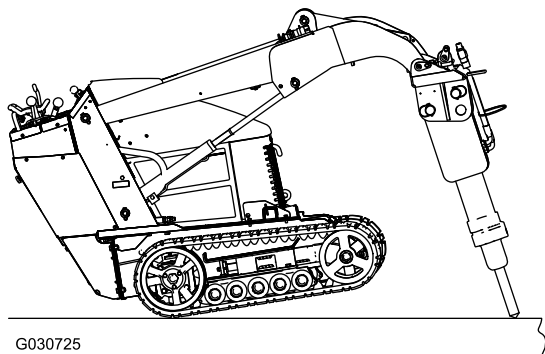

Figure 4
4. Lower the loader arms until the holes in the breaker align with the upper holes in the mount (Figure 4).
- Place the bit within 15 to 46 cm (6 to 18 inches) of the edge of the material to be broken, and angle the breaker slightly toward the edge (Figure 4).
- When breaking, always apply downward pressure with the loader arms until the front of the traction unit raises off the ground a few inches (Figure 4). Maintain this pressure as the bit works its way into the material being broken.